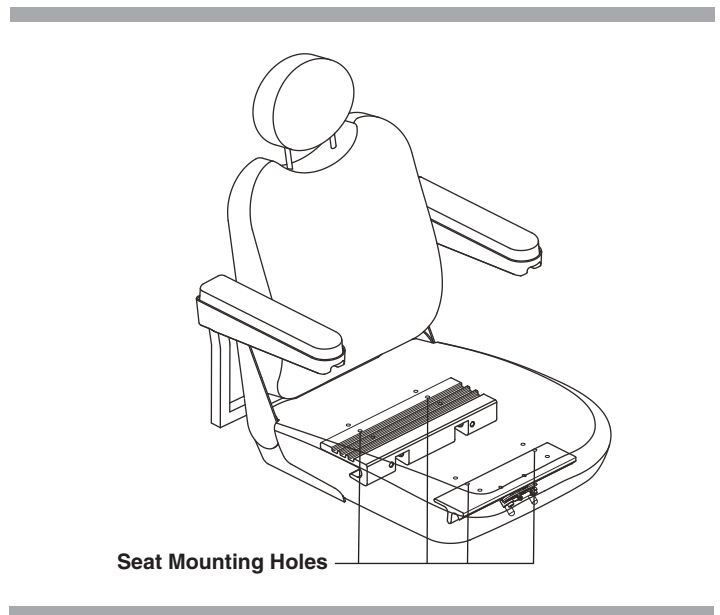

Figure 14. Seat Position Adjustment
6. Reposition the extrusions on a different set of mounting holes. You must move both extrusions the same number of holes either forward or backward. **See figure 14.**